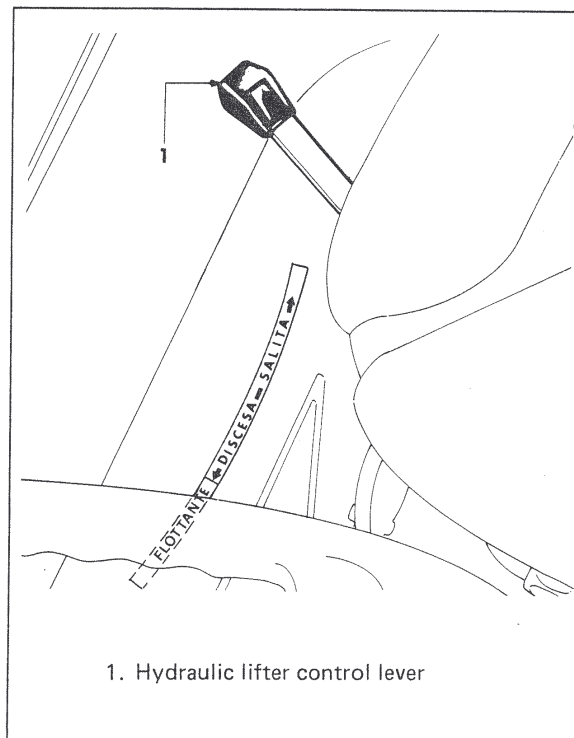

Figure 12. Control system of implement holder hydraulic lifter
The control lever acts as follows (see fig. 12):
"Stationary" position makes it possible to lead and hold the implement in any position inside or outside the ground according to the position selected with the lifter lever (fig. 12, item 1). Implement movement depends upon lever motion.